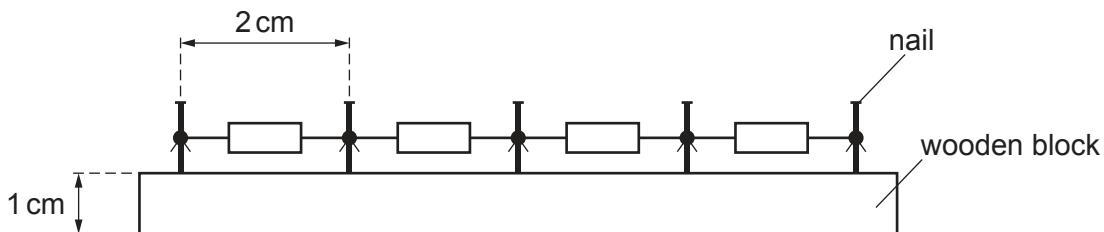

Fig. 1.1
- 2 Five nails should be hammered into the wooden block as shown in Fig. 1.1.
Four of the resistors should be soldered to the nails as shown in Fig. 1.1.